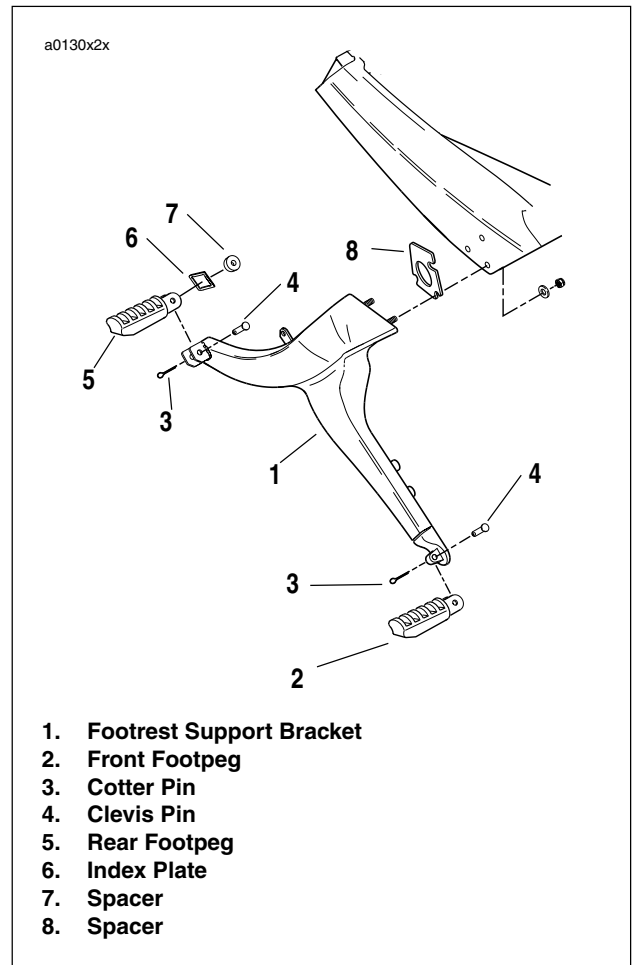

Figure 2-94. Footpeg Support Bracket (Left Side)
1. See Figure 2-94. Remove cotter pin (3).
2. Remove clevis pin (4).
4. See Figure 2-94. Remove mounting bolts located behind footpeg support bracket.
1. See Figure 2-94. Align footpeg mounting holes with footpeg support bracket mounting holes.